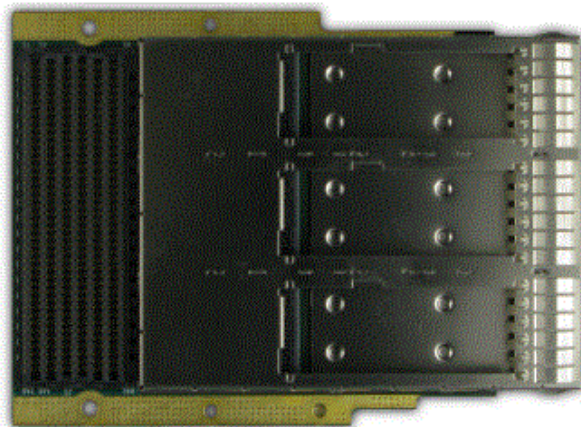

Figure 1 : FMC-PLUS_QSFP-DD Image
- Figure 1: FMC-PLUS_QSFP-DD Image